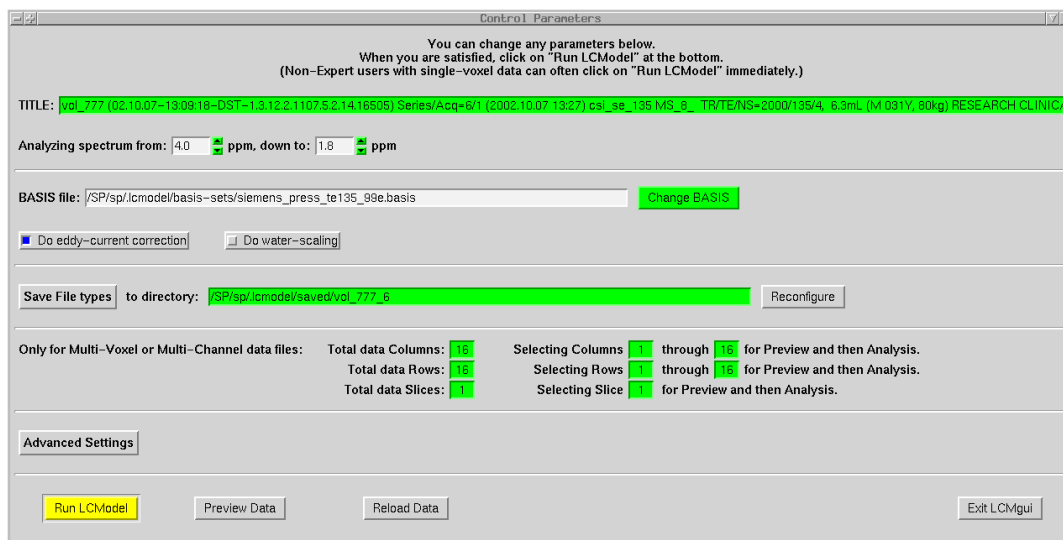

Figure 6.4: The Control Parameters Window
- Click on “Run LCMModel” (Fig 6.4 in Sec 6.4).
After you click the “OK” button in the File Selector, the second of the two most important windows, the “Control Parameters” window (Fig 6.4), appears. LCMgui remembers most of the settings from the previous session. Thus, Normal Users often can simply click the yellow “Run LCModel” button at the bottom to start the LCModel analysis. (Yellow is generally used to show you the usual path to take.)
In the second row in Fig 6.4, the entries next to “**Analyzing spectrum from:**” define the Analysis Window, the ppm-range over which the spectrum will be analyzed (Sec 3.4). You can change this range by clicking on the green up or down arrow next to the value. (Green usually indicates fields that you can click on or edit to make changes.)
In the third row in Fig 6.4, the entry next to **BASIS file:** shows the pathname of the .BASIS file containing the model spectra that will be used to analyze your data. If the .BASIS files are installed as specified in Sec 7.2.4, then LCMgui should automatically select the proper one, if it exists. Also LCMModel normally produces diagnostics if the .BASIS file does not match your data.
Users with Canon/Toshiba, Marconi/Picker data or GE Probe P-files can skip Sec 6.3.3 since eddy-current correction (ECC) is done automatically. Other users only have to set this as default the first time for future analyses. In the fourth row in Fig 6.4, a mouse-click switches the button for ECC between active (blue) and inactive (no ECC). (Blue usually indicates a button that is switched on.)
TITLE: This field at the top of Fig 6.4 will also appear at the top of the One-Page Output. You can edit this field, e.g., to insert comments on location or pathology.
There are several other useful files that can be output and archived by LCModel. Clicking on “Save File types” in Fig 6.4 produces a menu where you can select which types of output files will be archived. In addition to the .PS file (with the One-Page Output), the .TABLE file (with tables summarizing the results) should be selected.